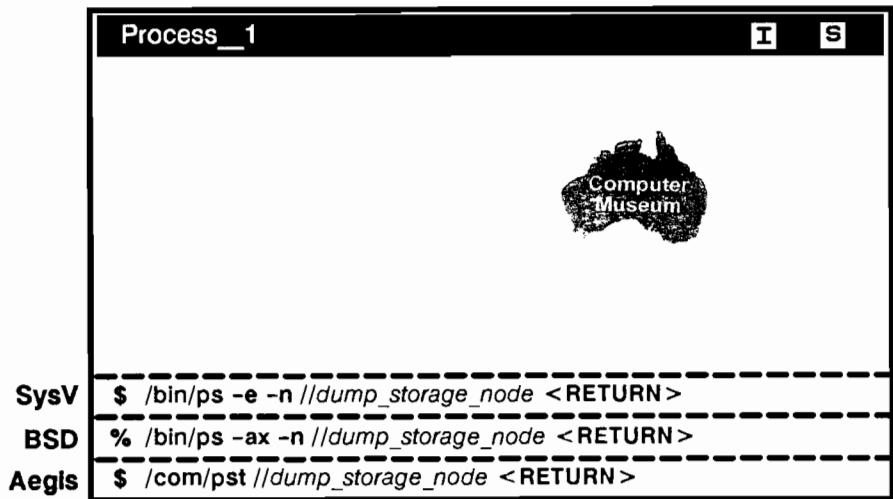

Figure 8-25. Checking for *netman* Process on the Dump Storage Node
- The system is under the control of the Mnemonic Debugger (MD). Your screen displays the MD ">" prompt.
- The dump storage node is running the **netman** process. (Type the command shown in Figure 8-25 at the dump storage node to see if **netman** is running. See your system administrator or the appropriate *Managing System Software* manual for more **netman** information.)